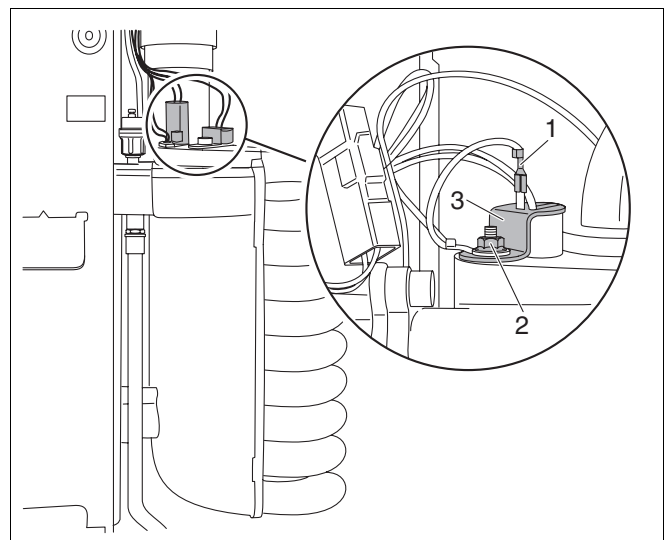

Fig. 74 Replacing the incandescent firing electrode
- Remove the earth (ground) lead from the incandescent firing electrode (fig. 74, item 1).
- Loosen nut on clamp used to secure earth (ground) lead (fig. 74, item 2).
- Detach retaining plate of incandescent firing electrode (fig. 74, item 3) and remove incandescent firing electrode.